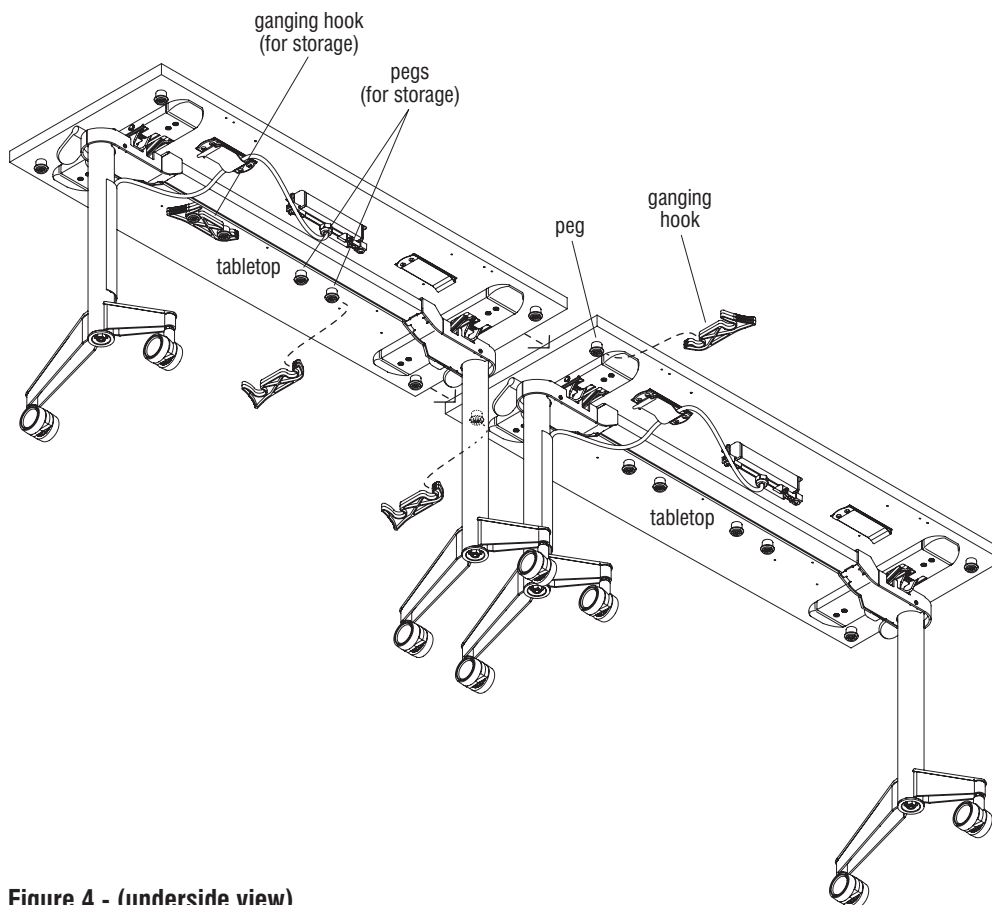

Figure 4 - (underside view)
1. Move the two tables to be ganged together side-to-side, such that the two pair of ganging pegs face each other. As illustrated, position and snap the two ganging hooks onto their respective ganging pegs, then swing the hooks to the opposite peg to securely gang tables together (Figure 4 & Detail B).
2. Position and snap any extra pegs onto the pegs for storage on the front user side of the table. For ganging hook storage when tables are not paired, disconnect the table edge ganging hooks and move them to the pegs mounted to the front user side of the table (Figure 4).